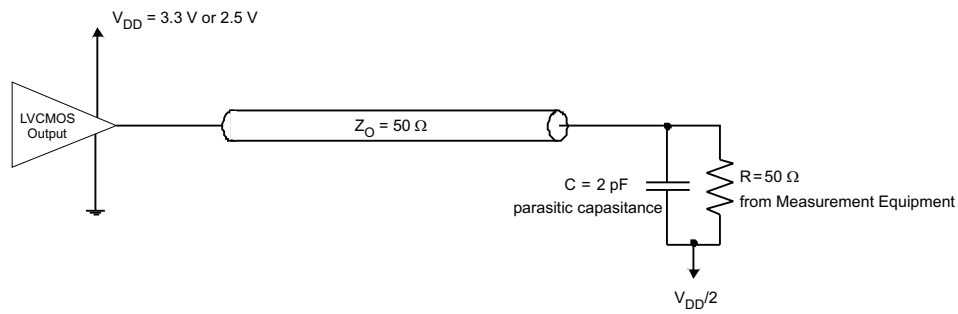

Figure 3. Test Load Circuit
- (1) All typical values are at respective nominal V_{DD}. For switching characteristics, outputs are terminated to 50 Ω to V_{DD}/2 (see Figure 3).